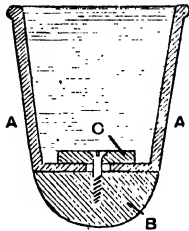
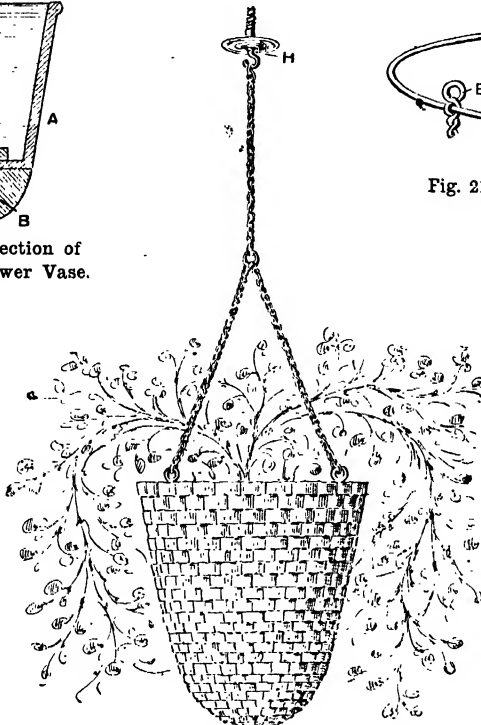
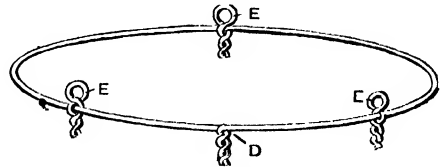
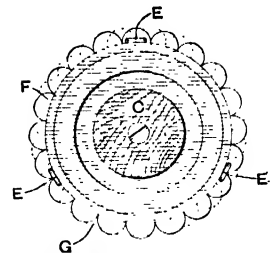

Fig. 213.—Section of Hanging Flower Vase.
Fig. 212. Hanging Flower Vase in Cork.
Fig. 214.—Wire Ring for Supporting Flower Vase.
Fig. 215.—Method of Fixing Corks to Hanging Flower Vase.
is not at hand, it may easily be carved with a chisel, or even with a knife, as the surface need not be very even so long as the general outline is somewhat correct. The block *B* is secured to the pot with a screw which passes through a small circular block of wood *C*, about  $\frac{1}{2}$  in. thick, and then into the block. A ring of thin wire as in Fig. 214 is carried round the upper part of the pot, and its two ends are fastened by twisting with a pair of pliers as shown at *D*. Three loops are then made and attached at *E*. The thickened top edge of the flower-pot prevents it from pulling off when suspended by chains as in Fig. 212. To make it doubly secure when it is in position,
**Ornamental Cork Work : Hanging Flower Vase.**—The hanging flower vase covered with half-circular pieces of cork illustrated by Fig. 212 has an effective, rustic appearance. To make it, an ordinary earthenware flower-pot *A* (Fig. 213) is required. The rounded bottom *B* is turned from a piece of soft wood such as pine or deal; if a lathe
glue over it a strip of linen or canvas; also glue the remainder of the pot. The pieces of cork which cover the pot may now be put on. Corks that have been used in bottles are suitable for the purpose. They are first cut in slices, and then in half as at *F* (Fig. 215). Glue them round the top as shown. The next layer must be glued on as shown by the dotted lines *G*, so that they are laid alternately. The smallest corks should be kept for the bottom part of the wood block, as the circumference diminishes. When finished, put on two or three coats of varnish and coat the loops *E* with liquid gold paint. The chains, the hook and brass collar *H* (Fig. 212) for fastening to the ceiling may be obtained at any ironmonger's. Should there be no beam in the ceiling near the desired hanging position, carefully screw a sharp-pointed